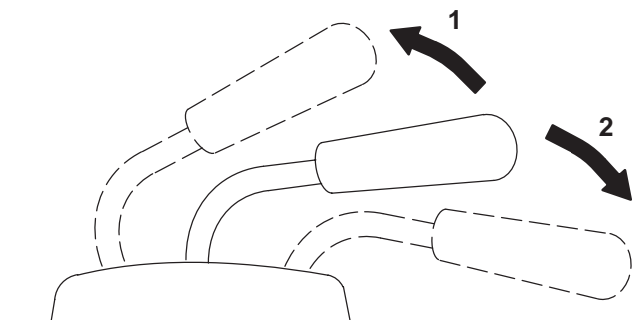

Figure 18
2. Pull the lift lever UP to raise the attachment (Fig. 18). This will lift and hold the attachment in the raised position.
2. Push the lift lever DOWN to lower the attachment (Fig. 18).